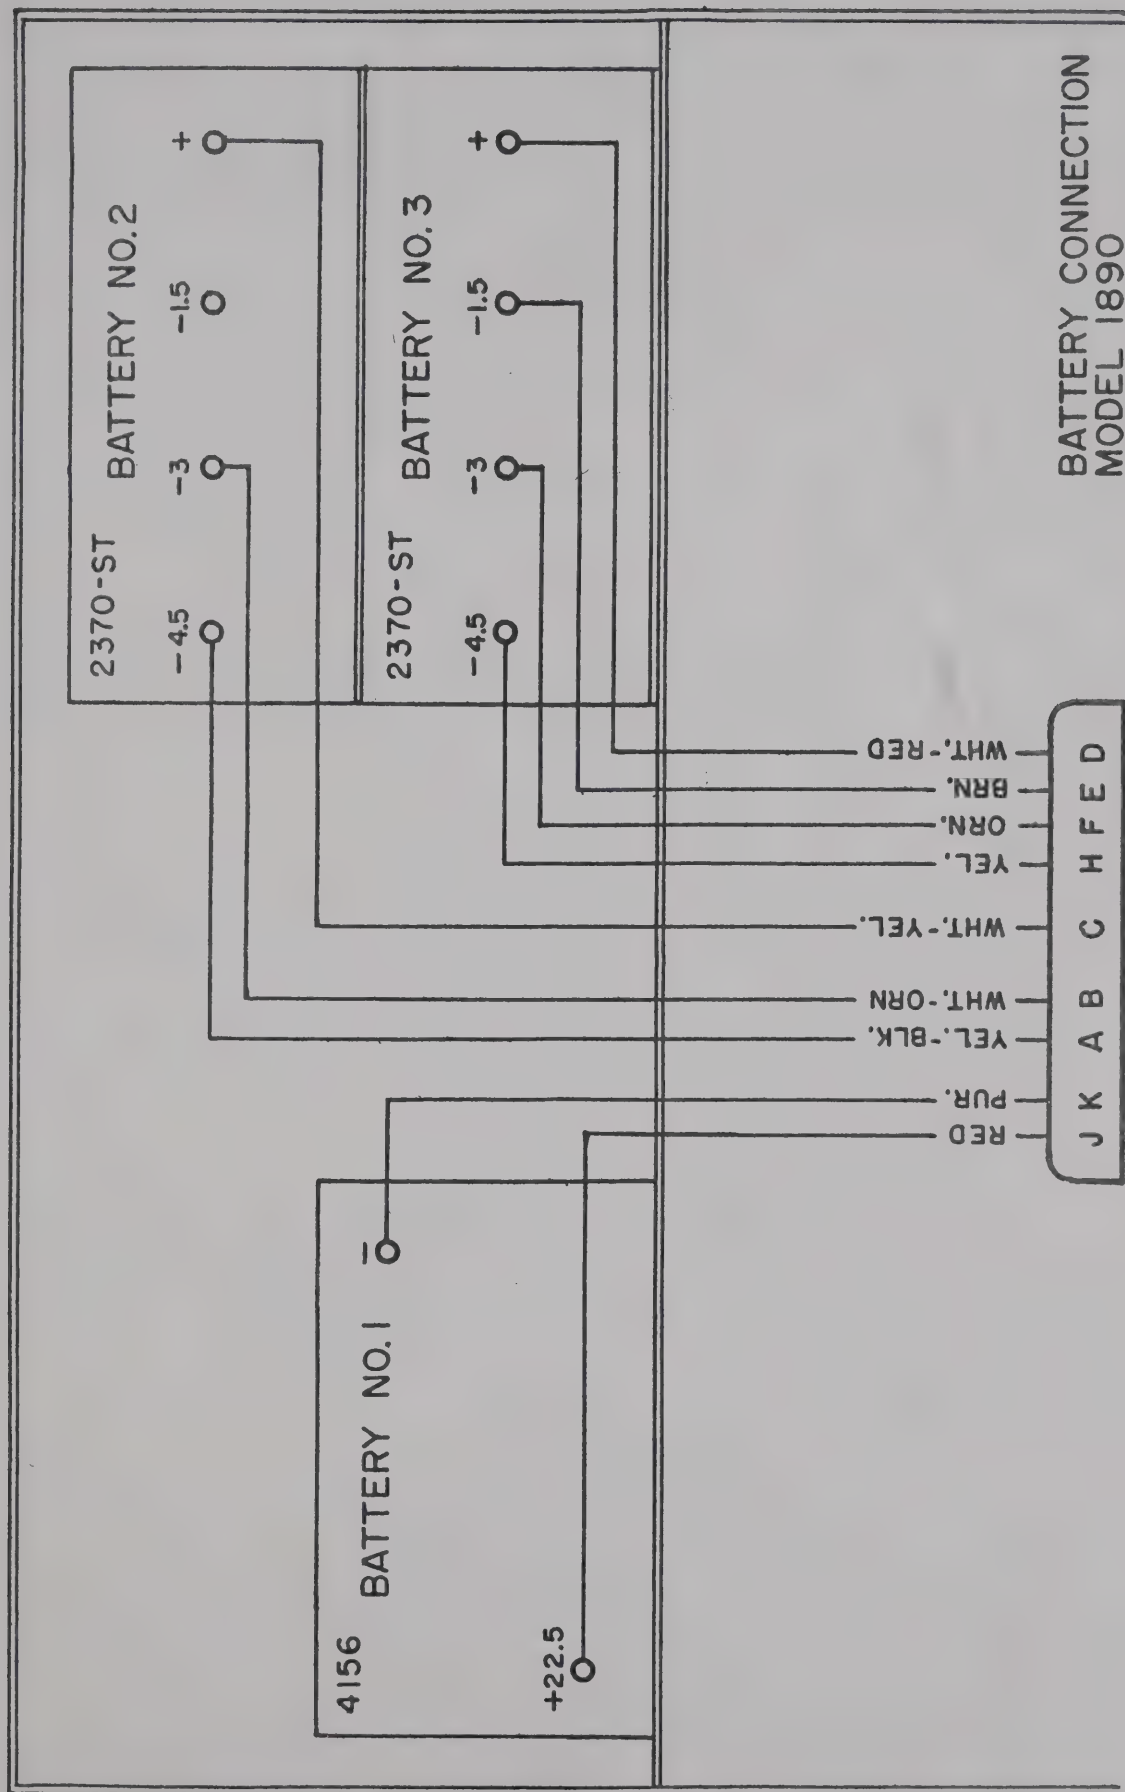

Figure 1.
4. Place the smaller of the two brackets around battery #1 and the other bracket around batteries #2 and #3. See Figure 1. NOTE: When installing the batteries in their brackets, there should be sufficient clearance between the lip of the brackets and the battery studs.
6. Then connect the various leads to their proper batteries. The wires are color-coded for easy recognition and are soldered to lugs for ease of installation. Figure 1 lists the color of the leads and shows where they should be placed. Tighten each lug securely to its stud.